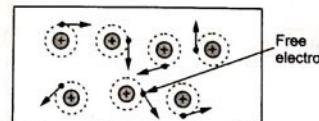

Fig. 1.2.1 Inside the piece of a conductor
- A conductor is one which has abundant free electrons. The free electrons in such a conductor are always moving in random directions as shown in the Fig. 1.2.1.